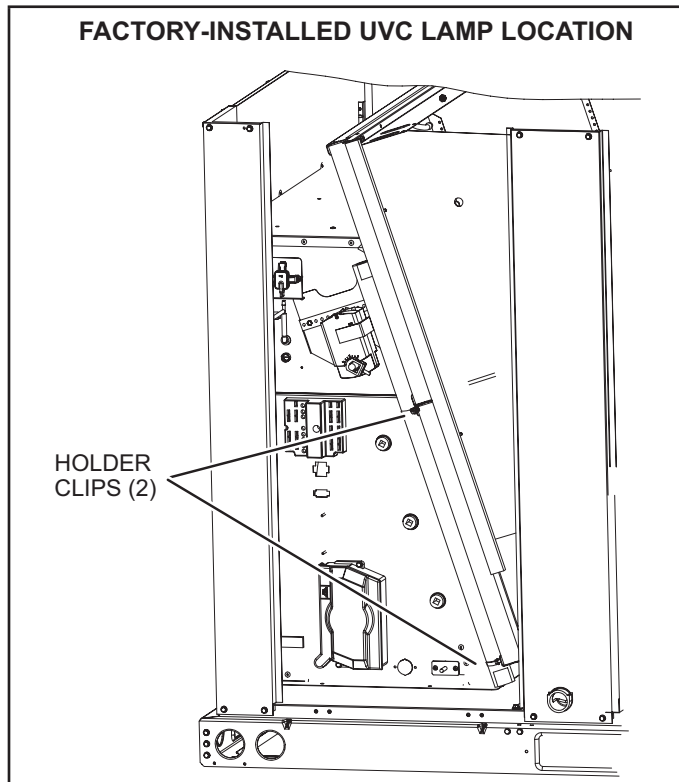

FIGURE 34
- 1 - Cut wire ties and remove the UVC lamp attached to the filter rack. See FIGURE 34.